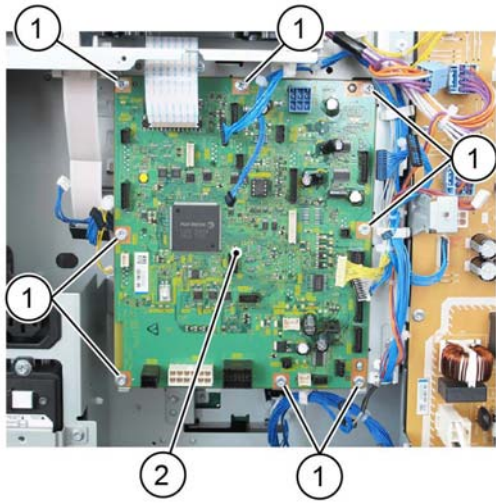

Figure 4 Drive PWB removal
6. Remove 8 screws (1), then the drive PWB (2), Figure 4.